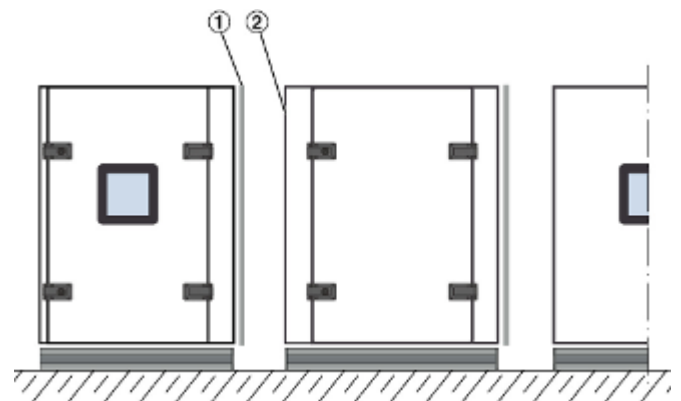

Fig. 11: Seals on AHU casing units
1. ▶ At the installation location: Move the AHU casing units as close together as possible and according to the correct assembly sequence, Fig. 11 . Make sure that all the connections (e.g. water) are on the correct side.
3. ▶ AHU casing units that are to be joined are fitted with perimeter seals (Fig. 11 /1). Note that only one of each two casing units that are to be joined has a seal; the other one does not have a seal (Fig. 11 /2).